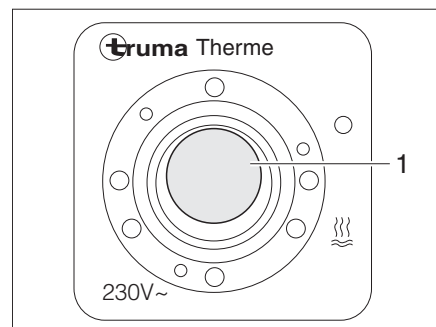

Fig. 130 Operating switch for water heater
The electrical mode of operation is activated using the operating switch (Fig. 130). The indicator lamp (Fig. 130,1) on the switch must light up.
- Switch on the operating switch (Fig. 130). Indicator lamp (Fig. 130,1) on the switch lights up.
- Switch off the operating switch (Fig. 130). The indicator lamp (Fig. 130,1) on the switch goes off.
- Switch off the operating switch (Fig. 130). The indicator lamp (Fig. 130,1) in the switch is not on.